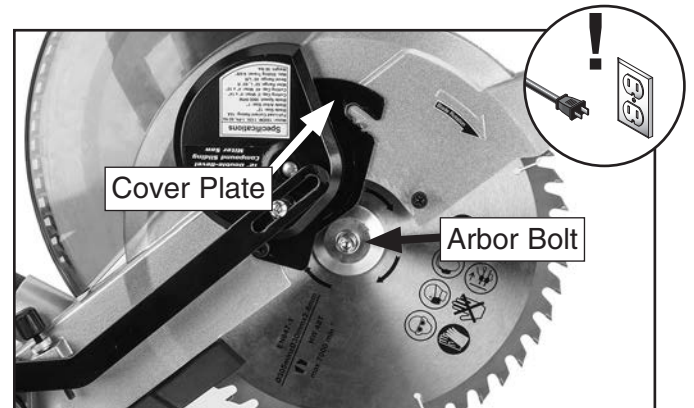

Figure 32. Revealed arbor bolt.
4. Loosen screw enough to allow cover plate and lower blade guard to move backward to reveal arbor bolt (see **Figure 32**).